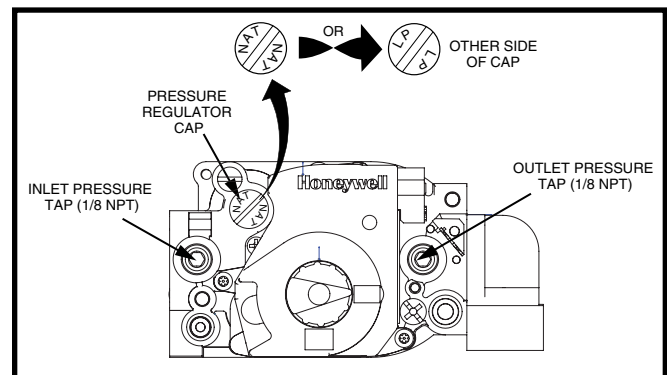

Figure 27. Honeywell Gas Valve
- Plugged tappings (1/8" NPT) for test gauge connection are present on the gas valve. See Figure 27 for locations.
This furnace can be converted from factory-equipped natural gas to liquid propane gas. Conversion of this valve requires replacement of the burner orifice and flipping the regulator cap to the side marked LP. The orifice required for conversion is supplied with the furnace. See Figure 27.
6. Unscrew the pressure regulator cap and check for the letters NAT or LP. See Figure 27 \(page 15\).
1. Remove the inlet pressure plug from the INLET side of the gas valve with a 3/16 Allen wrench. See Figure 27.
1. Remove the manifold pressure plug from the outlet side of the gas valve with a 3/16 Allen wrench. See Figure 27 \(page 15\).
6. Replace the cap so that the letters facing up represent the type of gas being used for the furnace. See Figure 27 \(page 15\).